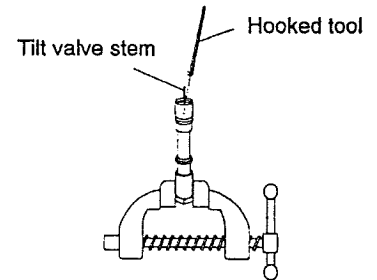

Figure 8
- With the Inlet Bushing still in the vise, remove the Tilt Valve Seat Retainer (31) and Tilt Valve Seat Support (30). Use a hooked tool with no sharp edges to remove the Tilt Valve Seat (29) from the Inlet Bushing. See Figure 8.